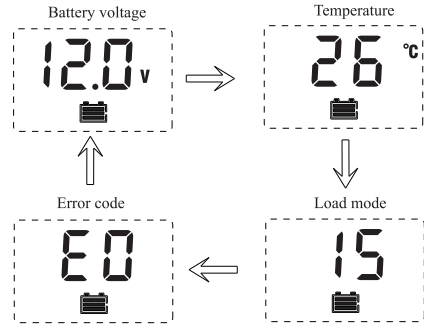

figure 1
1. The figure 1 is for the model HP2410 and HP2420.